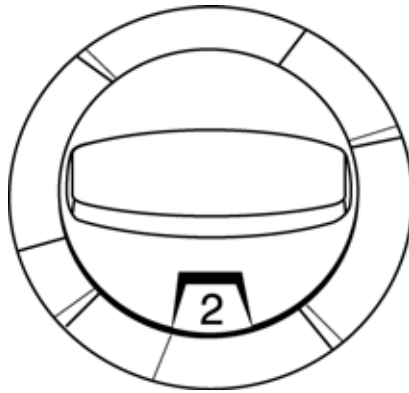

Figure 16: Flow Control Knob Set for 2 L/min
11. Turn the Companion Portable unit flow control knob to the prescribed rate (Figure 16).